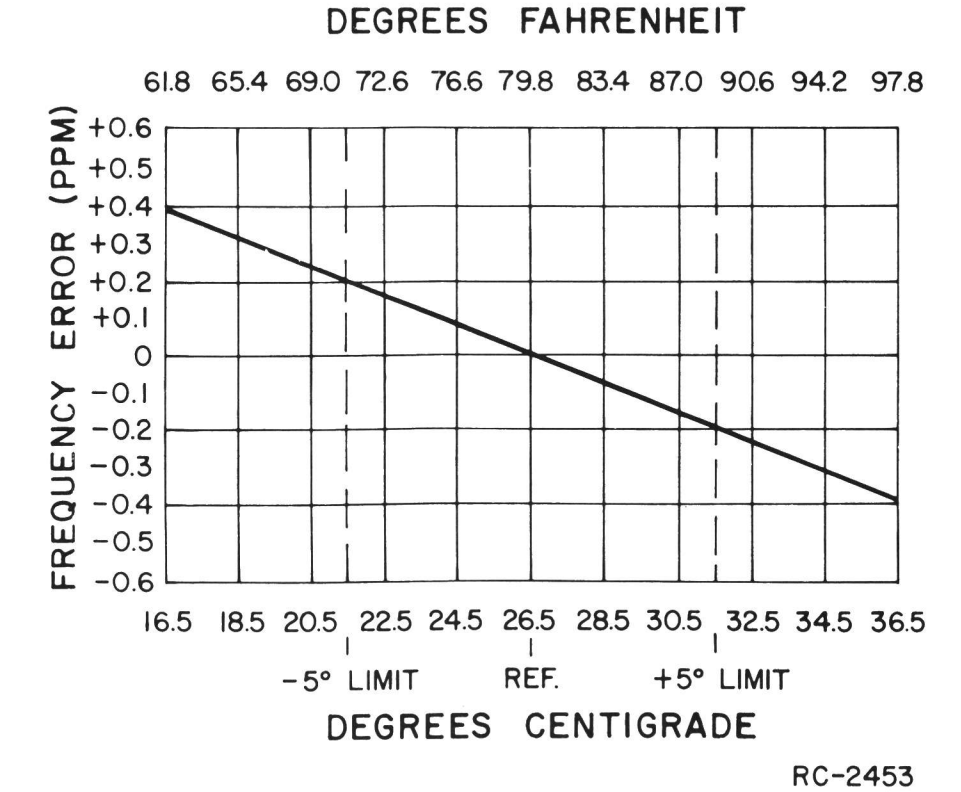

Figure 8 - Frequency Characteristics Vs. Temperature
2. Maintain the radio at 26.5°C (±10°C) and offset the oscillator, as a function of actual temperature, by the amount shown in Figure 8.
- B. To hold setting error to ±0.35 PPM (which is considered reasonable for 2 PPM ICOMs): Maintain unit at 26.5°C (±5°C) and offset the oscillator as a function of actual temperature, by the amount shown in Figure 8.